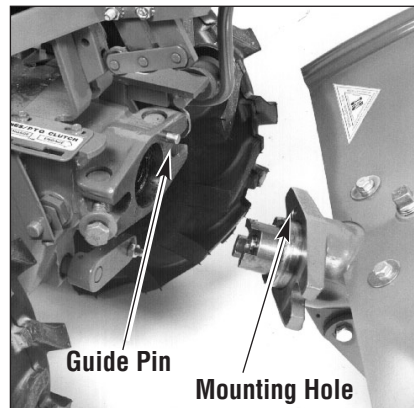

Figure 4-27: Aligning guide pin with mounting hole.
8. Tip the PTO power unit forward about one inch with one hand while pulling the tine attachment back (Figure 4-26). The guide pin on the power unit will slide out of the guide hole in the tine attachment (Figure 4-27).
4. Carefully align the guide pin on the PTO Power Unit with the alignment hole in the tine attachment and bring the two units together (Figure 4-27).